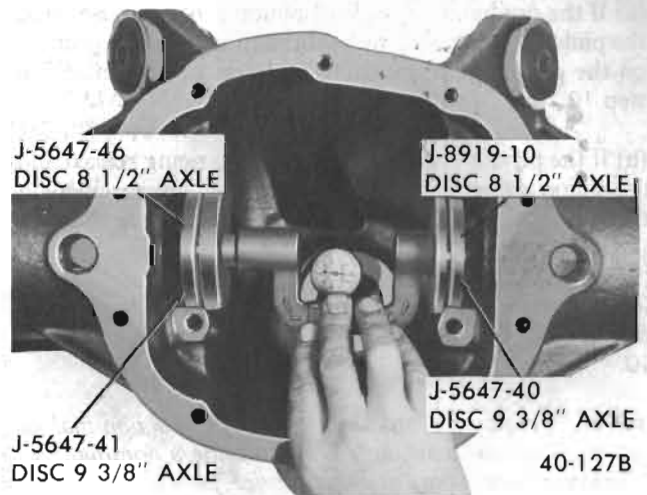

Figure 40-132 - Checking Pinion Depth
8. Be certain differential bearing support bores are free of dirt and burrs. Install indicator gage in carrier so that small diameter portion of discs rest in differential bearing pedestal support bores. Spring-loaded center of gage must be located in centering hole of gage plate, and ball-tipped contact button of dial indicator must be positioned to bear against outer edge of gage plate top surface. See Figure 40-132.